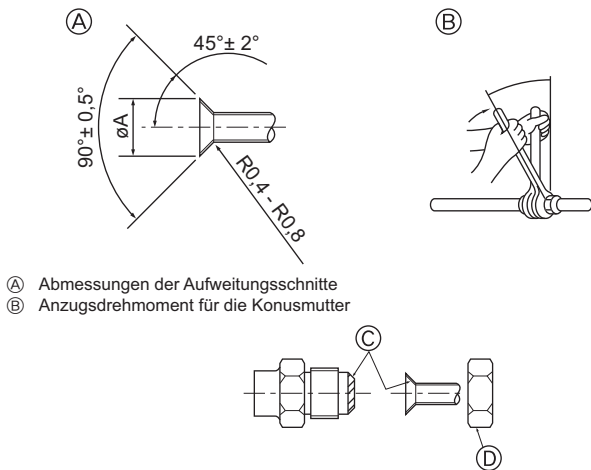

Fig. 4-2
(A) (Fig. 4-2)
(B) (Fig. 4-2)
4.2. Rohranschlüsse (Fig. 4-2)